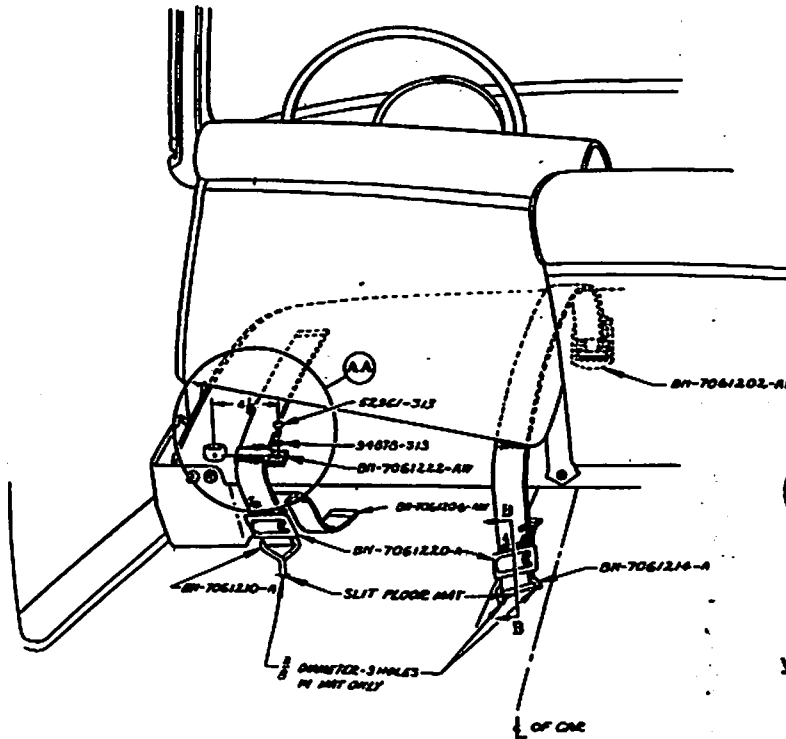
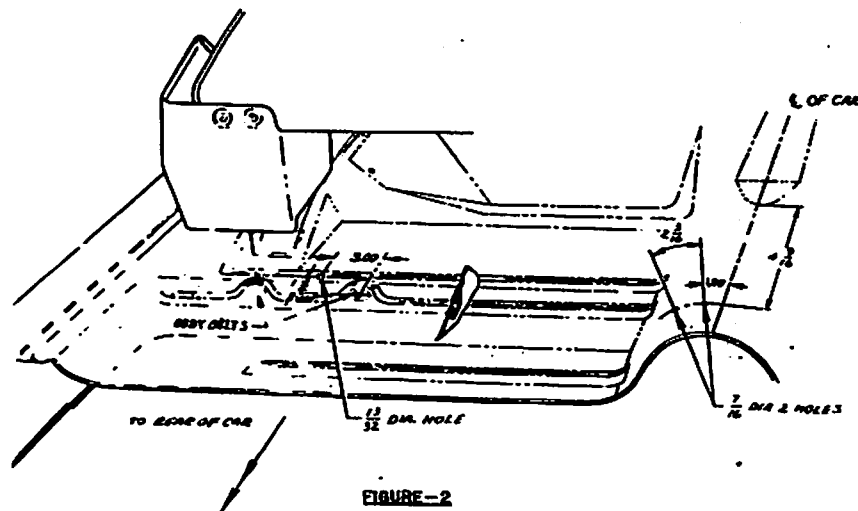

FIGURE-1
FIGURE-2
- 3 DELAY OF MANEUVERS IN HOLDING FLOOR JOINT COORDS INSIDE IN POSITION, IT WILL BE NECESSARY TO CENTER POINT SMALL EXPLODATIVE HOLES IN FLOOR JOINT AND CHECK INITIAL POSITION FROM UNDER SIDE OF FLOOR JOINT. LOCATE EXPLODATIVE HOLE FOR OUTER ANCHOR BOLT TO DIMENSIONS SHOWN IN FIGURE-2.
- 5 FROM UNDER SIDE OF THE HOLE THE ANCHOR BOLT AND FLOOR PLATE IN POSITION ON FLOOR JOINT TO CHECK THEIR FORCE AND LEFT POSITION WITH RESPECT TO THE CROSS NUMBER AS SHOWN IN FIGURE-2.
- 6 AT THE END OF THE SCOT INSTALLATION, THE SCOT PLATE SHOULD BE PLACED AGAINST THE CENTER OF THE HOLE IN ORDER TO BEHOLD THE SCOT PLATE CLEARANCE DIMENSIONS SHOWN IN FIGURE-2. AND DO NOT SHIFT DIMENSIONS. TURNED IN 300° OR 450° OF SCOT.
- 8 DETERMINE LOCATION OF INNER AND OUTER ANCHOR BOLT HOLES THROUGH FLOOR JOINT OR ORIENT AND CUT CLOSET, SLIT AND HOLES IN JOINT, SEE FIGURE-1.
- 10 CORRECT BOLT ASSEMBLIES TO INNER AND OUTER ANCHOR BOLTS AS SHOWN IN FIGURE-1. END OF BOLT ASSEMBLIES SHOULD BE POSITIONS TO OBTAIN THE DIMENSIONS SHOWN IN FIGURE-2 FOR GENERAL USAGE. WHEN BOLT IS BEING MOVED, OUTSIDE SHOULD BE OFF CENTER TOWARD OUTBOARD SIDE, BUT SHOULD NOT REST ON HOLE OF PEEPER. OUTBOARD BOLT LENGTH IS SHOWN IN FIGURE-1. THERE ARE TWO TYPES OF BOLT, BUT NOT IN USE.
- 11 FOR HOLES WITH SCOT SCOT JOINT OR SCOT JOINT IN THE FORWARD POSITION, INITIAL SCOT JOINT ATTACHING SCOT JOINT SIDE OF SCOT JOINT IN POSITION SHOWN IN FIGURE-1. SCOT JOINT DIMENSIONS SHOWN IN FIGURE-1 FOR MANUAL SCOT INSTALLATIONS. FOR POWER SCOT JOINT INSTALLATIONS, DIMENSIONS SHOWN IN FIGURE-1 FOR POWER SCOT JOINT INSTALLATIONS. (SEE) WITH ANCHOR BOLT INTO SCOT JOINT ATTACHED TO EXISTING SCOT. INITIAL SCOT AND WASHER TO SECURE BATHING LOOP. (BATHING LOOP IS NOT INCLUDED ON FIGURE-2 MODELS).